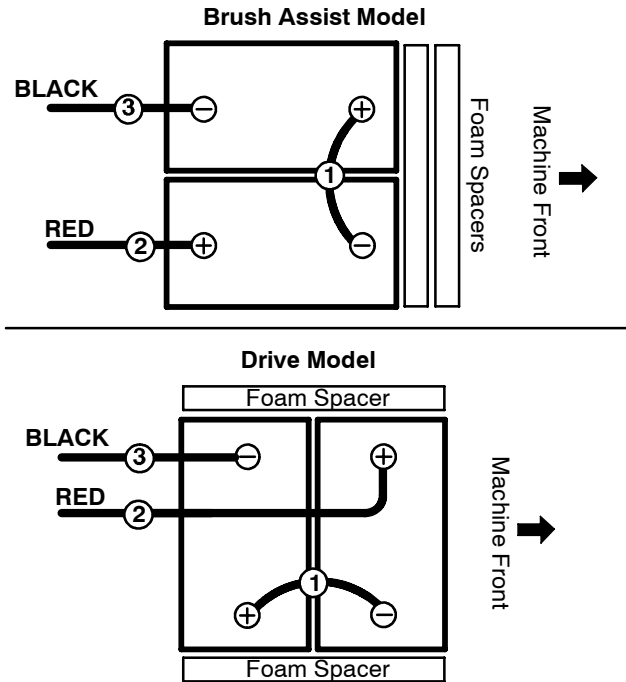

FIG. 2
3. Carefully install the batteries into the battery compartment tray and arrange the battery posts as shown (Figure 2). Insert the two foam spacers along side the batteries as shown.
- Using the supplied battery post boots, connect the cables to the battery posts in numerical order as labeled (Figure 2), RED TO POSITIVE (+) & BLACK TO NEGATIVE (-).